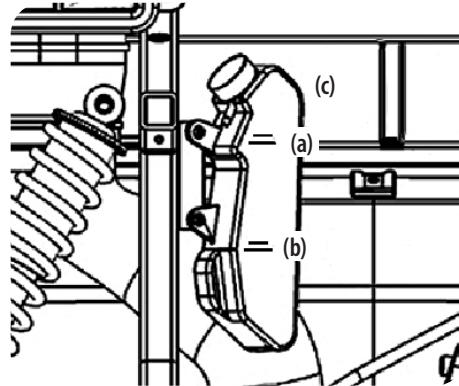

Figure 5-13
2. Check to see that the coolant level is between the FULL (a) and LOW (b) marks of recovery tank (c). See Figure 5-13.